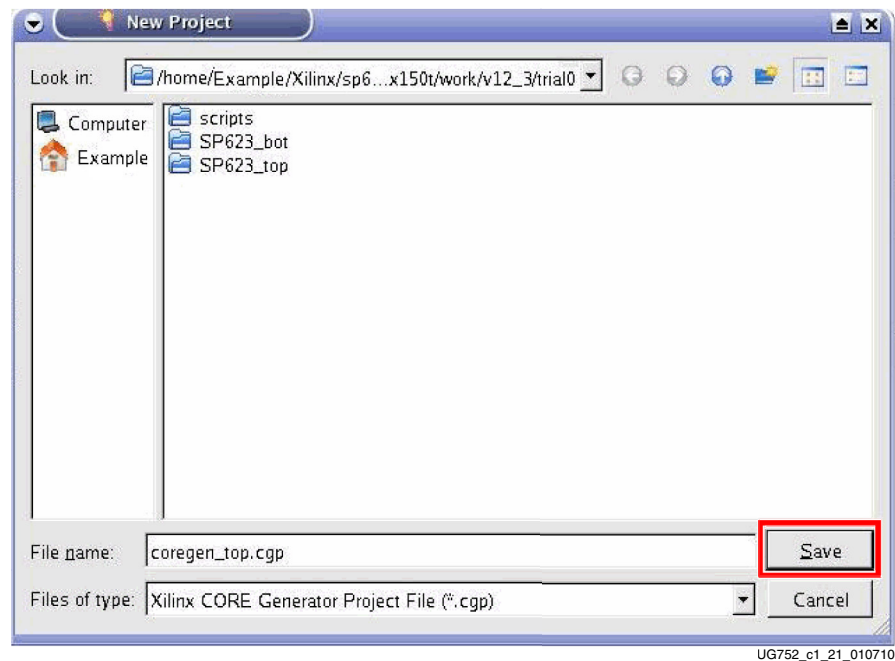

Figure 1-18: Save New Project
5. Name the project `coregen_top.cgp` and click **Save** (Figure 1-18). Note that for the “SP623_bot” design, the project will be named `coregen_bot.cgp`.